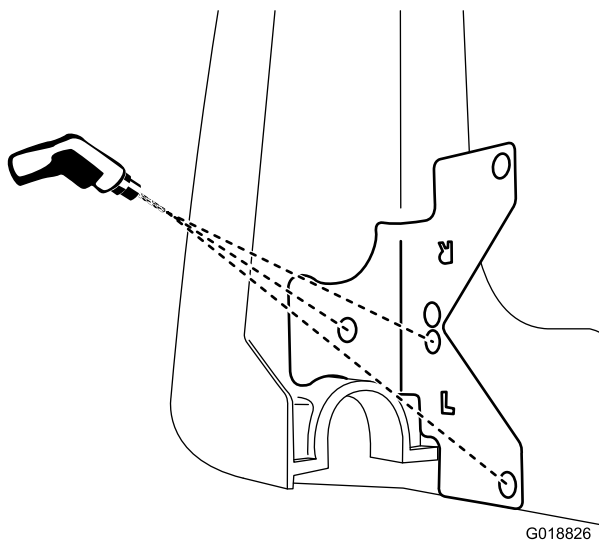

Figure 1
4. Align the rounded edge of the tailgate drill template with the tailgate pivot and ensure that both surfaces are flush with the bed (Figure 1).
5. Drill 3, 8 mm (5/16 inch) holes using the template as a guide (Figure 1).